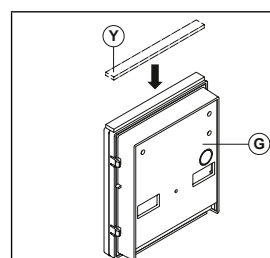

Fig. 3
Apply the (Y) seal as shown in **Fig. 3**.